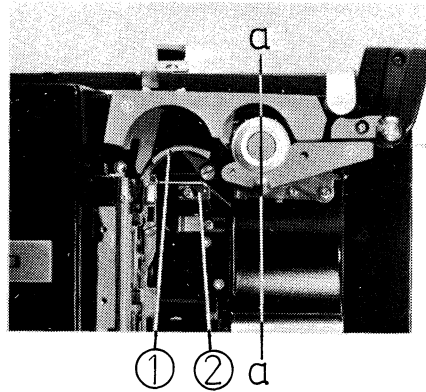

Fig. 32
4. Attach the first sprocket so that the optional sprocket teeth may be in the vertical line of "a-a" in Fig.32.